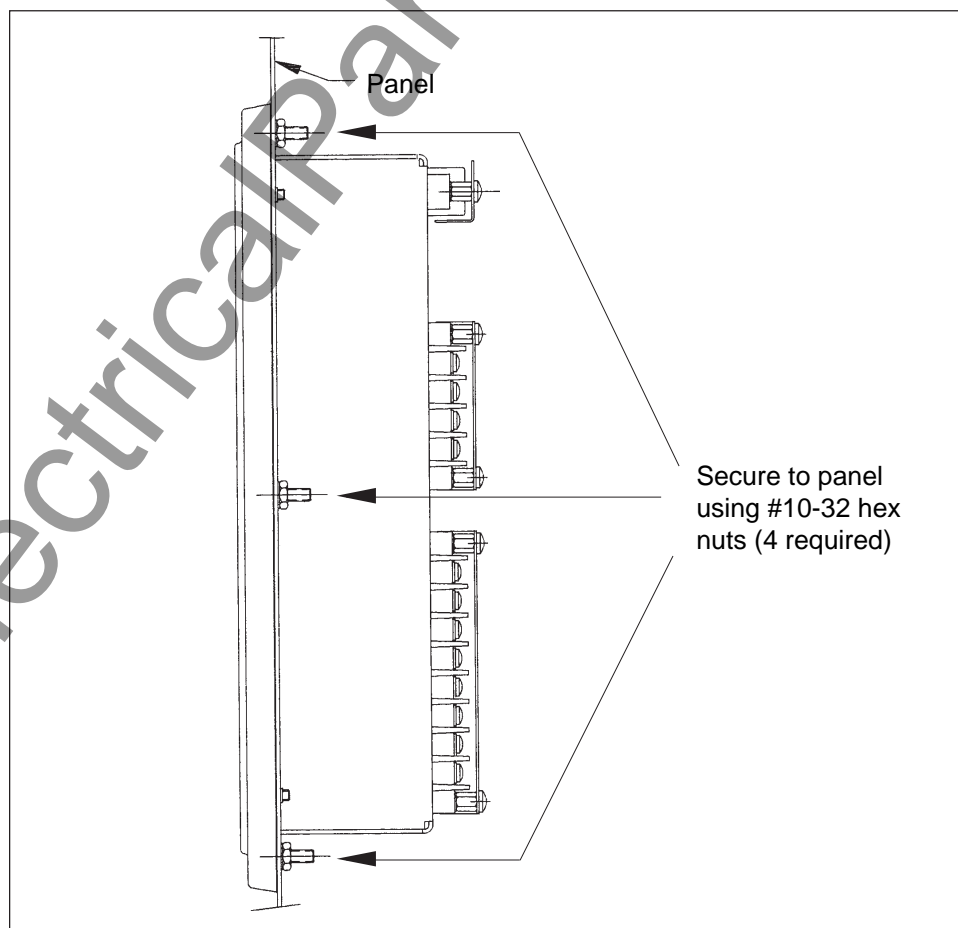

Figure 3-3: Circuit monitor mounted in electrical panel
3. Secure the circuit monitor to the panel using four #10-32 hex nuts included in the circuit monitor hardware kit (63230-204-16). Figure 3-3 shows the circuit monitor mounted in an electrical panel.